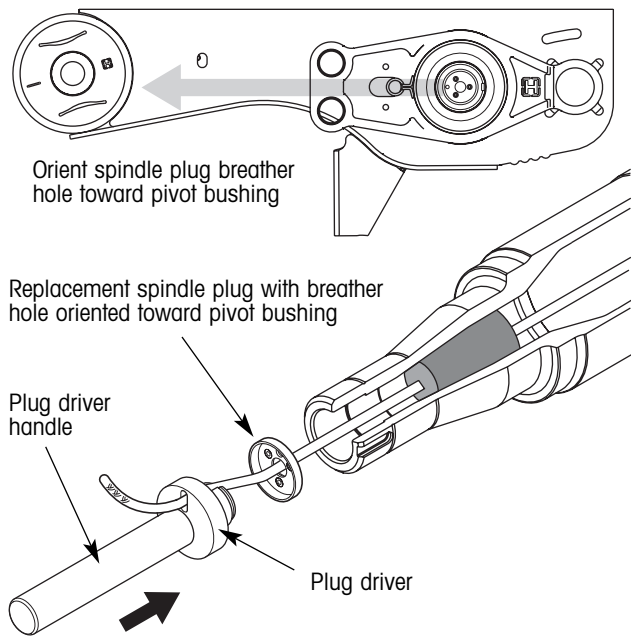

Figure 3. Spindle plug installation
5. Route the end of the braided hose through the center of the replacement spindle plug (figure 3).
6. With the spindle plug breather hole oriented toward the pivot bushing (figure 3), place the spindle plug against the spindle end.
7. Route the braided hose through the slot in the plug driver (figure 3) and press the spindle plug into the spindle end until the driver bottoms on the end of the spindle.